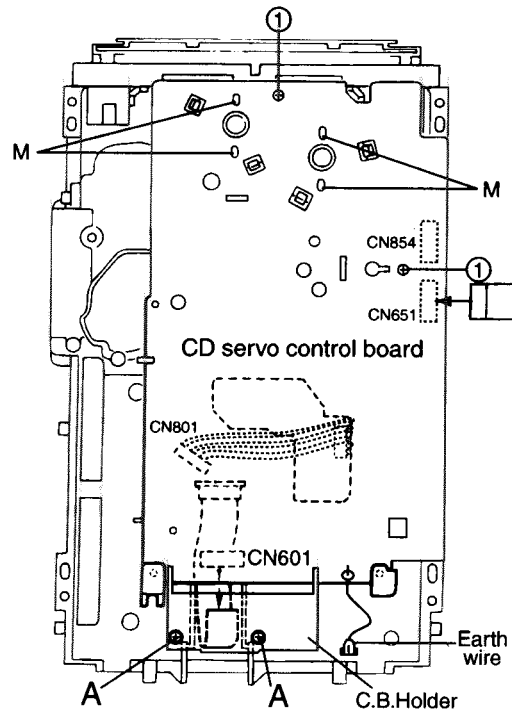

Fig.1
■Removing the CD Servo control board (See Fig.1)